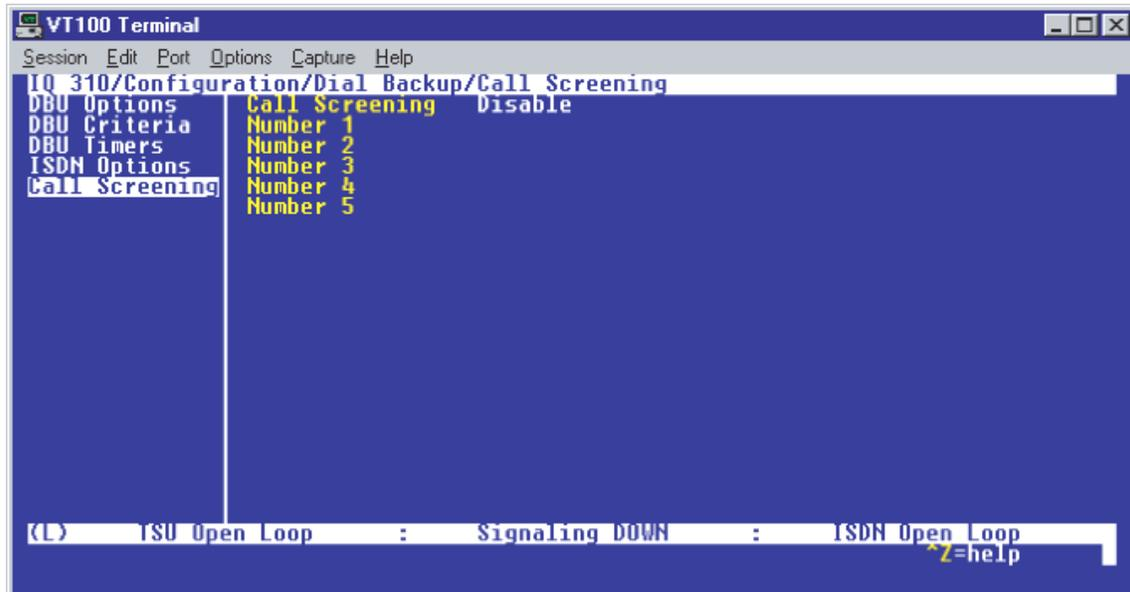

Figure 16. Call Screening Menu
1. Press the left arrow key and then the down arrow key to select **CALL SCREENING**. The menu shown in Figure 16 will be displayed. The default values for the parameters listed on this menu are shown.